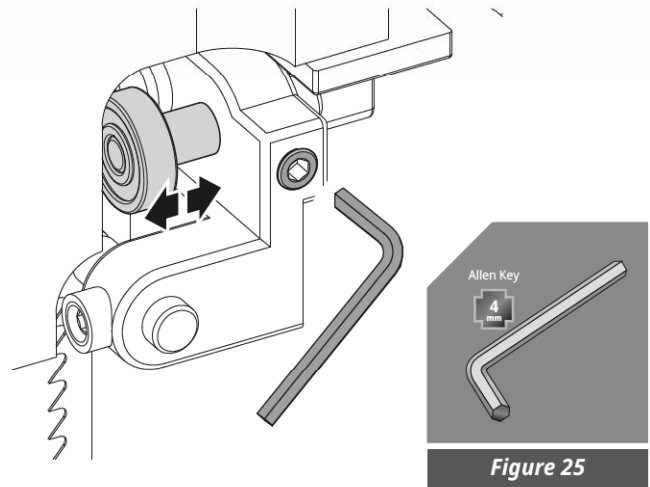

Figure 25
2. Loosen the thrust bearing's locking screw. (See Figure 25)